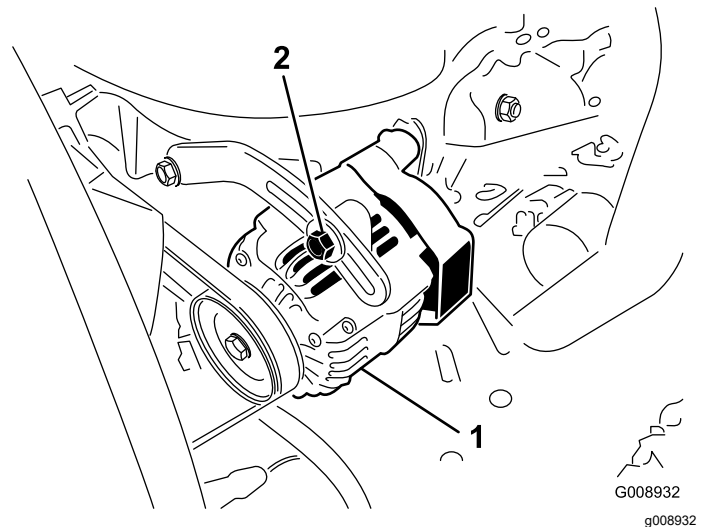

Figure 118
Check the condition and tension of the belts (Figure 118) after every 100 operating hours.
3. If the deflection is not 10 mm (3/8 inch), loosen the alternator mounting bolts (Figure 118).